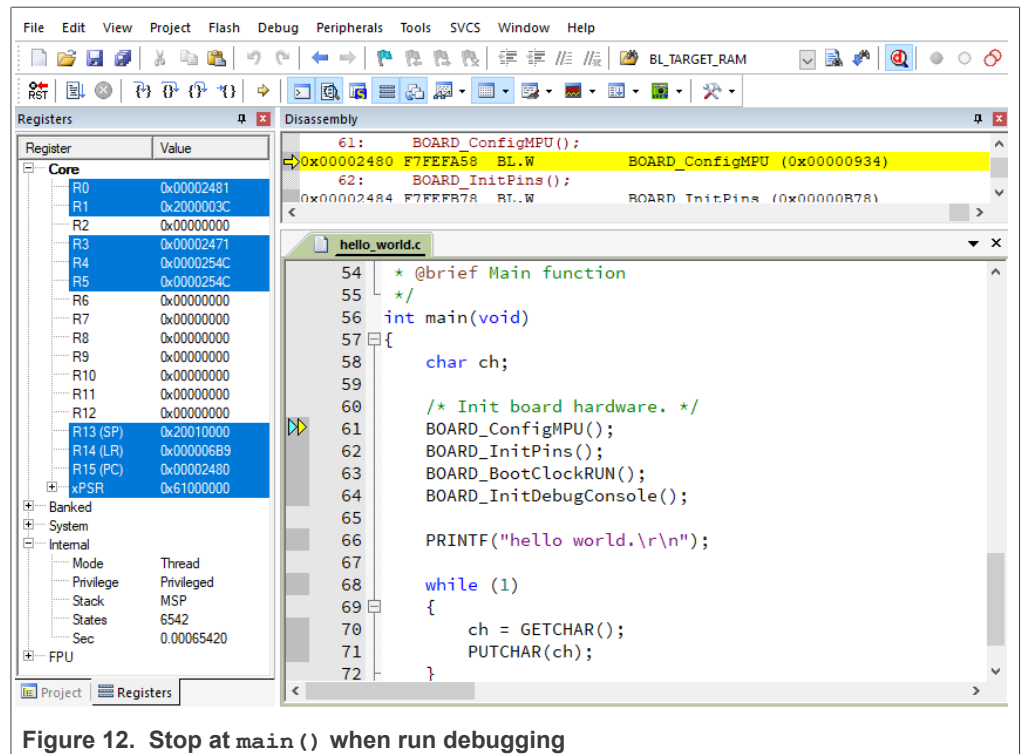

Figure 12. Stop at main() when run debugging
4. To debug the application, click **load** (or press the F8 key). Then, click the **Start/Stop Debug Session** button, highlighted in red in Figure 12. If using **J-Link** as the debugger, click **Project option** > **Debug** > **Settings** > **Debug** > **Port**, and select **SW**.